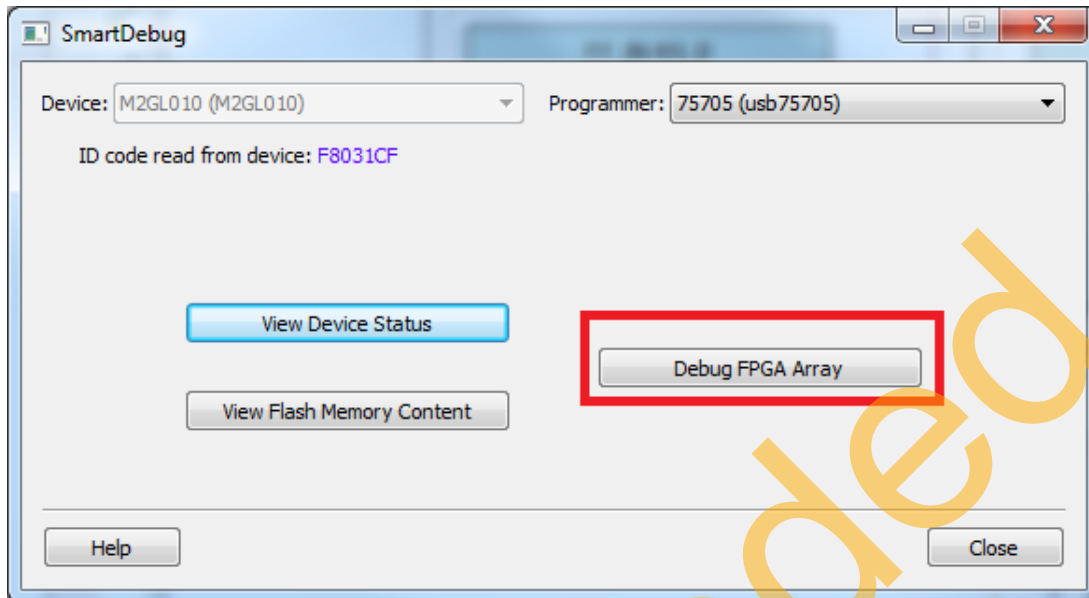

Figure 11 • SmartDebug Window - Debug FPGA Array
2. Click on Debug FPGA Array as shown in Figure 11.